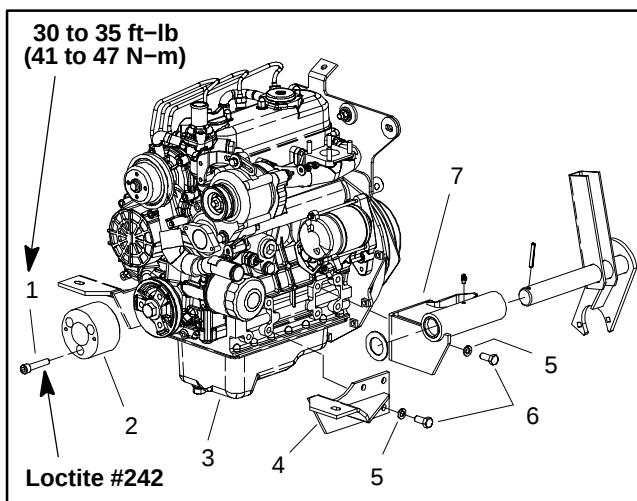

Figure 13
3. If drive adapter was removed from crankshaft pulley (Fig. 13), apply Loctite #242 (or equivalent) to threads of socket head screws. Secure adapter to pulley with three (3) socket head screws. Torque screws from 30 to 35 ft-lb (41 to 47 N-m).